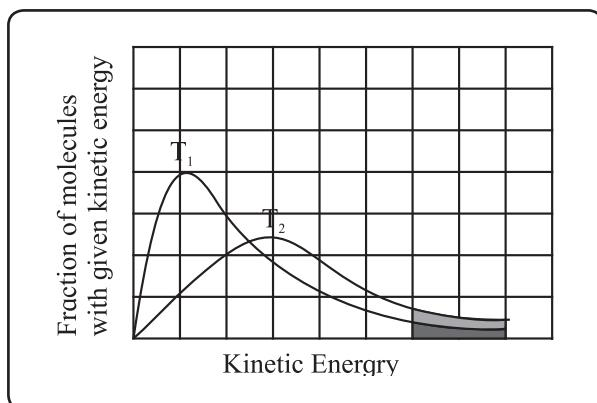

Fig. 6.9 : Comparison of fraction of molecules activated at T_1 and T_2
At a given temperature, the fraction of molecules with their kinetic energy equal to or greater than E_a may lead to the product. With an increase of temperature the fraction of molecules having their energies (E) would increase. This is depicted by plotting a fraction of molecules with given kinetic energy versus kinetic energy for two different temperatures T_1 and T_2 (T_2 being $> T_1$) in Fig. 6.9.